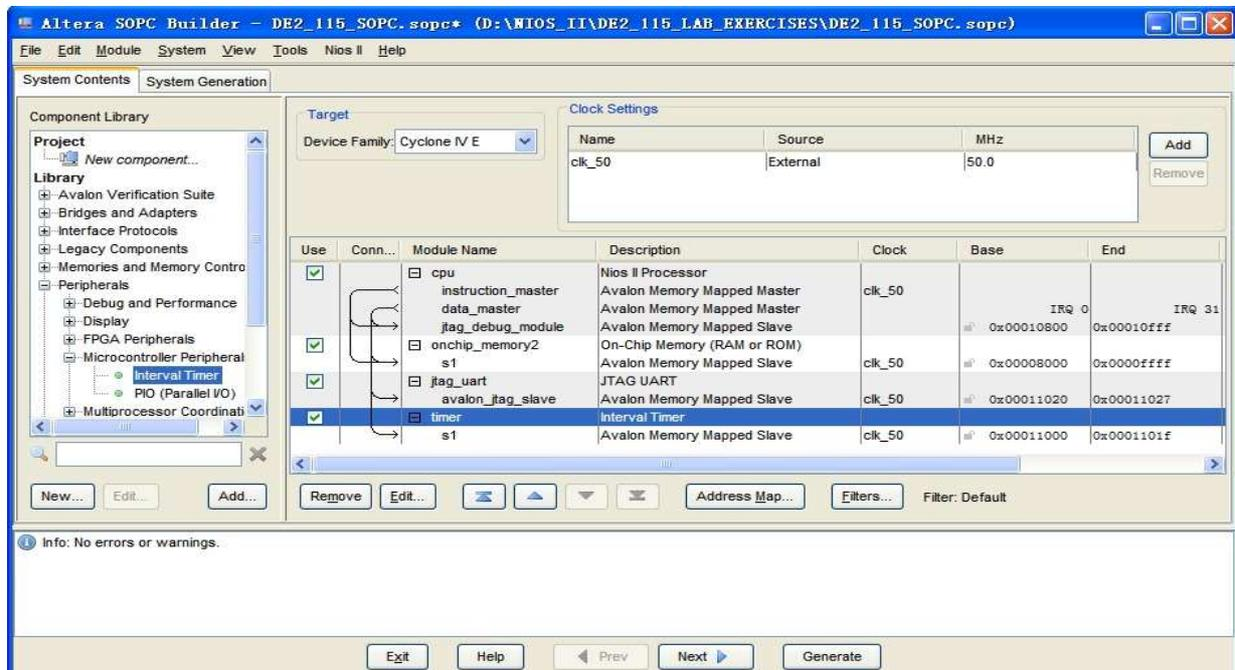

Figure 5. The Nios II system implemented by the SOPC Builder.
- From the **System** menu, select **Auto-Assign Base Addresses**. You should now have the system shown in Figure 5.
Create an interrupt-service routine to read characters received by the JTAG UART from the host computer. Place the interrupt-service routine at the hex address 0x20, because this is the default location for the *exception handler* as chosen by the SOPC Builder. The exception return address in the *ea* register must be decremented by 4 for external interrupts. Figure 5 gives a skeleton of the interrupt-service routine written in the Nios II assembly language.
To enable both interrupts, from the Interval Timer and the JTAG UART for reading characters (from Part IV), the bits b1 and b0 of the control register *ctl3* must both be set to 1. As seen in Figure 5, the JTAG UART is on interrupt line 0 (or b0) and the Interval Timer is on interrupt line 1 (or b1). The control register *ctl4*, also referred to as *ipending*, can be used to determine which interrupt has occurred. If an interrupt is disabled using the control register *ctl3*, it will not cause the interrupt-service routine to execute, nor will it show as being triggered in the control register *ctl4*, even if the device is driving its interrupt-request line to